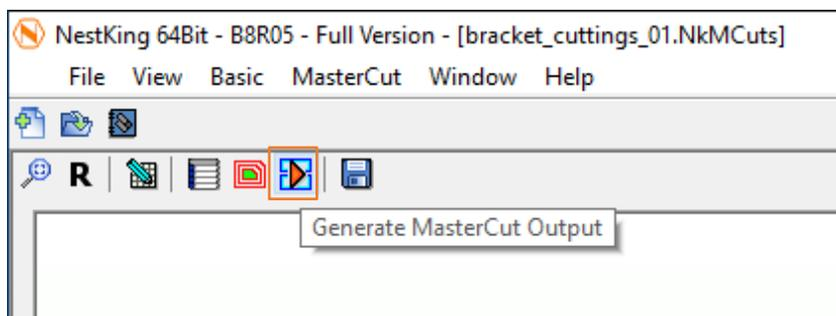

Figure 200
13. To see how PlyPacks are treated in the MasterCut Output file click (Figure 200).